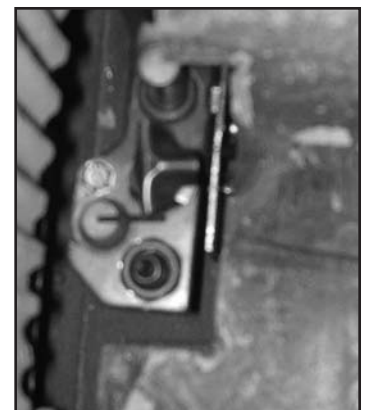

Figure 22: Pilot assembly beside the burner
8. Re-install the burner, ceramic panels, log set and glass door. Also refer to SECONDARY INSTALLATION - LOG SET INSTALLATION. When re-installing the burner, ensure that the burner to pilot hood relationship is similar to what is shown in Figure 22.